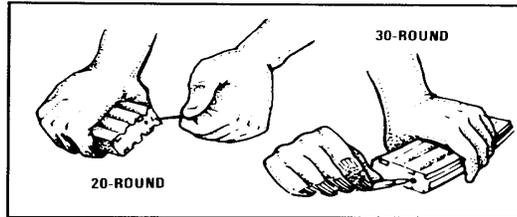

Figure 5-68. Releasing the Base Catch of the Magazine
- a. Release the base catch (figure 5-68).